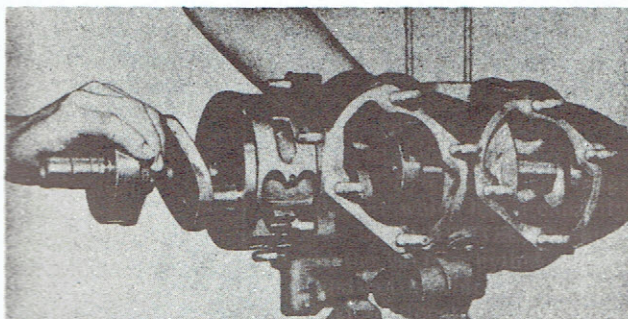

Figure 9-2. Crankshaft Installation
c. Turn the center main bearing cage until the intake ports are at the top. Insert the crankshaft assembly into the crankcase as shown in figure 9-2.